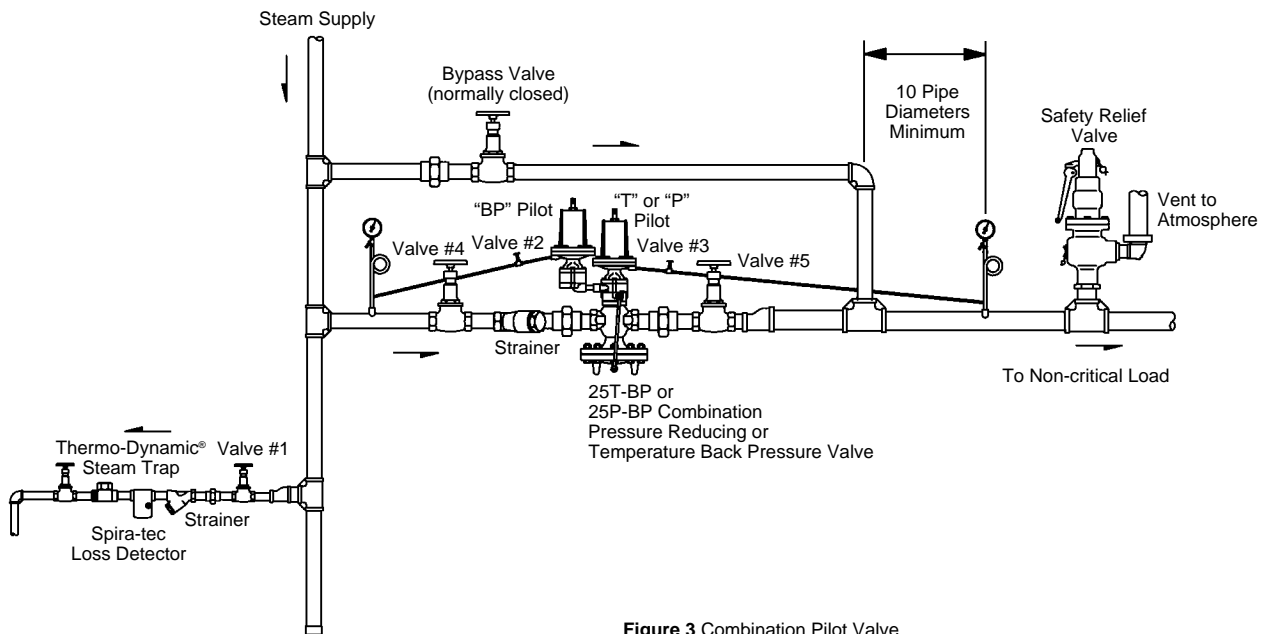

Figure 3 Combination Pilot Valve
See Figure 3 for typical hookup. This valve, while either controlling the downstream steam pressure to a piece of equipment with a 'P' Pilot or controlling the temperature of a secondary fluid with a 'T' Pilot, will also automatically shut off the steam supply should the incoming steam pressure fall below the setting of the 25BP pilot.
1. First, make certain **all** stop valves are closed (3 through 6). Valve #2 on Figure 3 is not installed since there is no downstream sensing line.